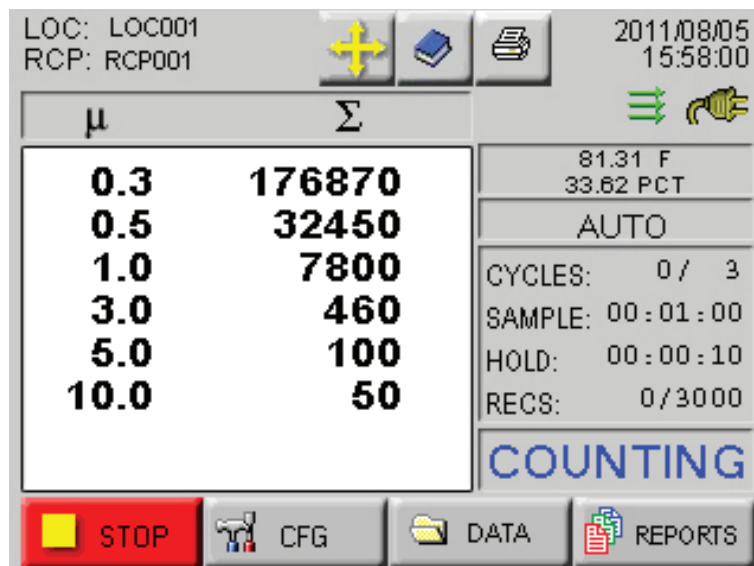

Figure 4-5 Main Screen, Counting Mode
- **START/STOP:** Press START button on the screen to start counting. When running, the instrument will display "COUNTING" in the lower right portion of the screen as shown in Figure 4-5.